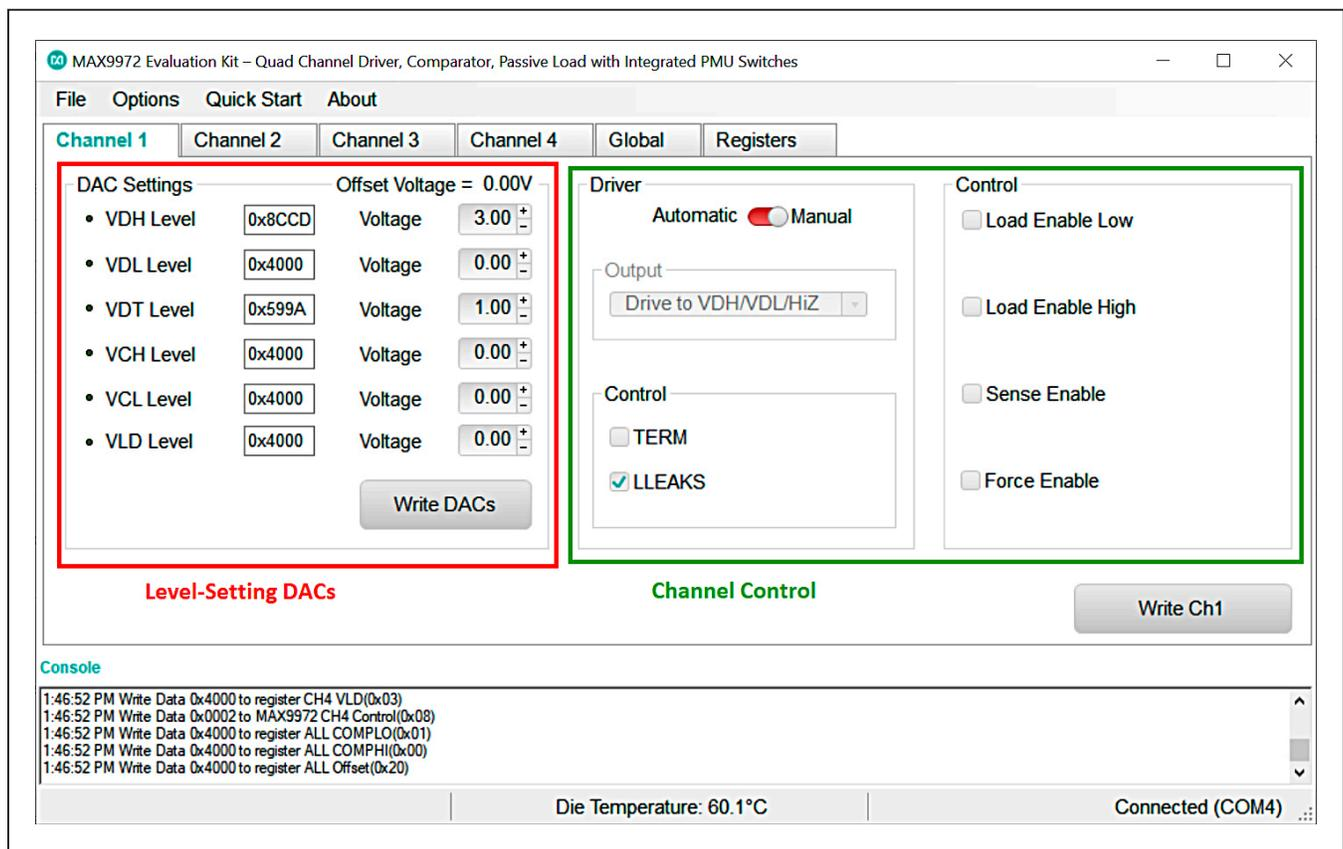
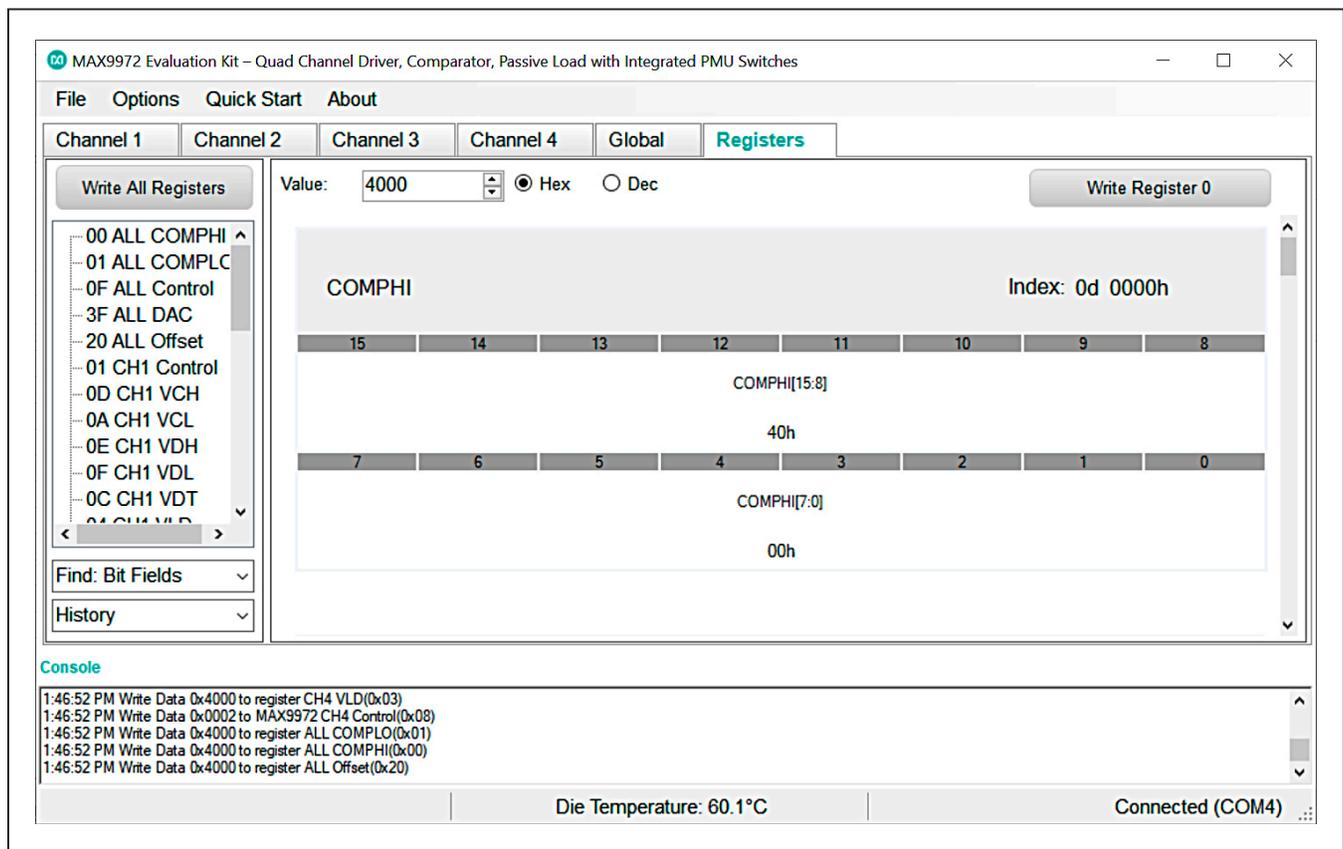

Figure 2. MAX9972 EV Kit Software Window (Level-Setting DACs and Control Register)
Figure 4. MAX9972 EV Kit Software Window (Register Tab)
- 7) Select the COM port and click on the **Connect** button. The MAX9972 GUI should indicate EV kit connected in the status bar (outlined in blue), as shown in Figure 2.
Channel 1, Channel 2, Channel 3, and Channel 4 are identical and control each of the MAX9972 channels independently. These tabs contain **Level-Setting DACs** and **Channel Control**, as shown in Figure 2. After setting DAC levels and control signals, click on the **Write Ch\_** button to load data into the MAX9972 device through the SPI interface.
There are two methods for configuring the MAX9972 and MAX5734 devices. The first method is through the graphical user interface as shown in Figure 2. The second method is through the **Registers** tab as shown in Figure 4. The **Registers** tab allows execution of serial commands manually. The **Registers** tab can also be used as a debug tool because it is capable of writing to every register of the MAX9972 and MAX5734.